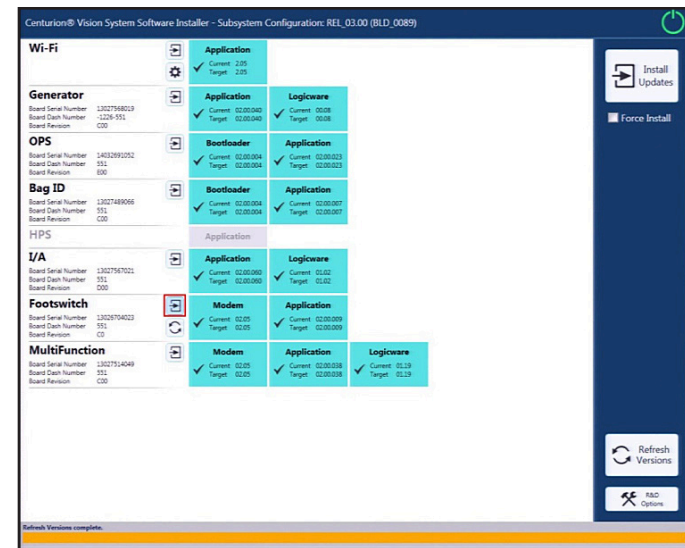

Figure 4-17 Subsystem Install Updates Button
2.4.10 Select the *Subsystem Install Updates Button* (shown in Figure 4-17).